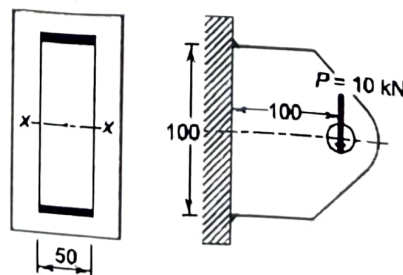

Fig. 3. Welded Bracket (All dimensions are in mm)
7. A bracket is welded to the vertical column by means of two fillet welds at the top and bottom as shown in Fig. 3. Determine the size of the welds, if the permissible shear stress in the weld is limited to 70 N/mm². [10]